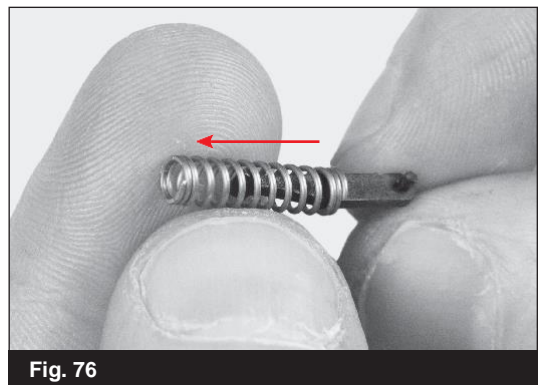

Fig. 76
- Slide the coil spring off the rod. (Fig. 76)